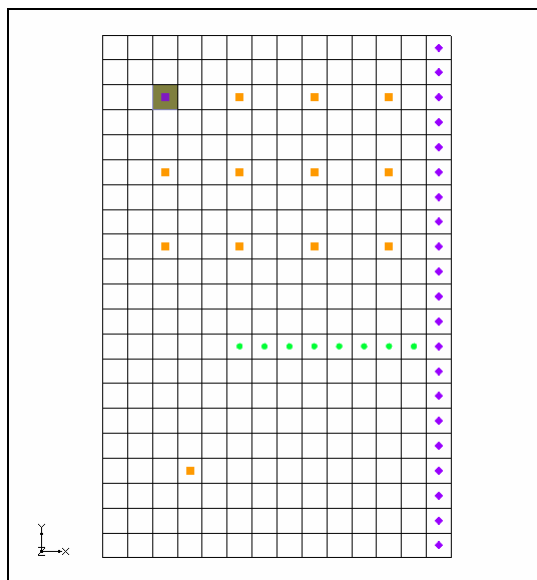

Figure 6. Selected MNW2 well cell.
1. Re-select the grid cell containing WELL-A (as shown in Figure 6, the one containing the top-left well with Cell ID 31).